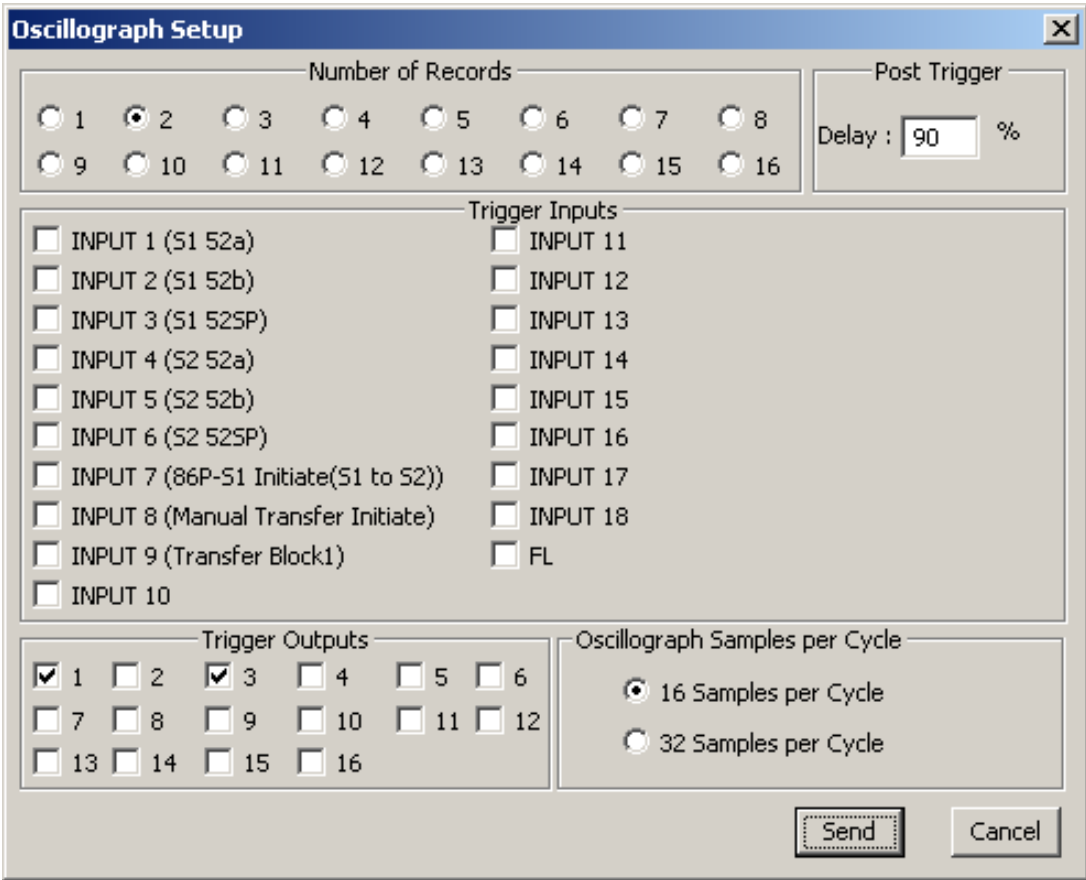

Figure 4-16 Setup Oscilloscope Recorder
1. From the ISScom Main Screen menu select **System/Oscillograph/Setup**. ISScom will display the Oscillograph Setup screen (Figure 4-16).
6. Select **Send**, ISScom will display a Oscillograph Setup Sent Confirmation Screen (Figure 4-16).